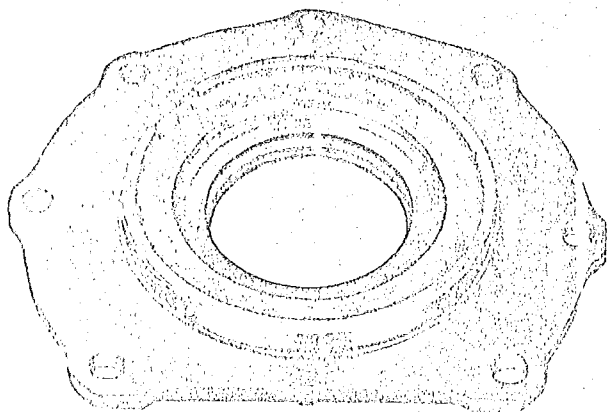

Figure 2
5. Position shims on cover and place rubber "O" ring over the cover pilot next to the shims, (Fig. 2).*